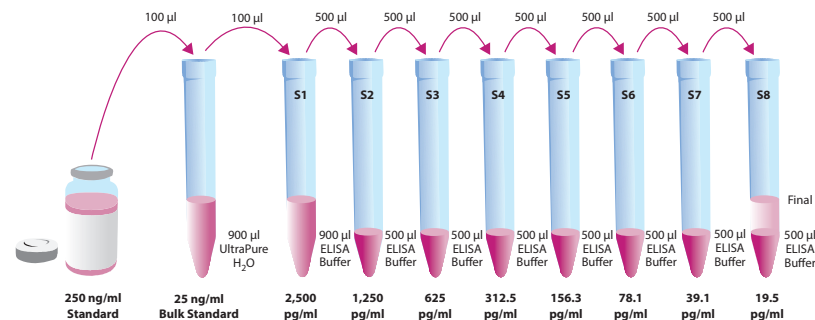

Figure 3. Preparation of the PGD2 standards
**Figure 3. Measurement of  $\text{PGD}_2$  in cell lysates.** Cells were lysed as described in the Sample Preparation section. The lysates were then spiked with  $\text{PGD}_2$ , diluted with ELISA Buffer, and analyzed using the  $\text{PGD}_2$  ELISA Kit. The y-intercept corresponds to the amount of  $\text{PGD}_2$  measured in unspiked lysates. Error bars represent standard deviations obtained from multiple dilutions of each sample.